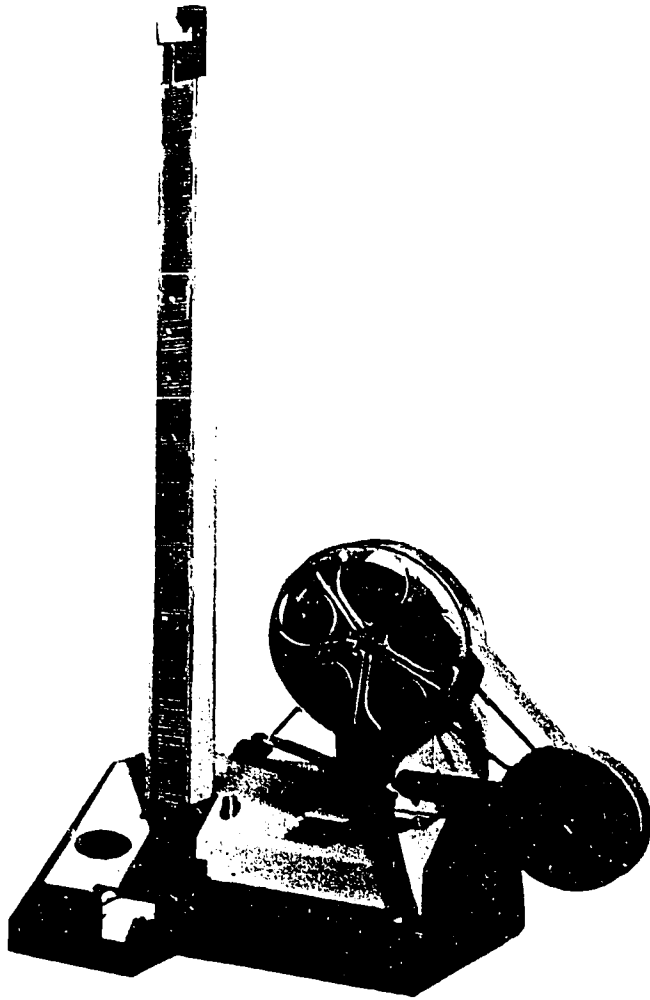

Figure 5-13. "Pakon" slide mounter, model 35.
**Semi-automatic Slide Mounters.** A slide mounting machine like the one shown in figure 5-13 will both cut and mount your film automatically. The end of the roll of film is trimmed and the roll is lined up in the machine. At the press of a button, the mounter takes over to mount a continuous roll of film in a matter of seconds, stacking the slides in a bin in front of the mounter. These slide mounters use plastic mounts